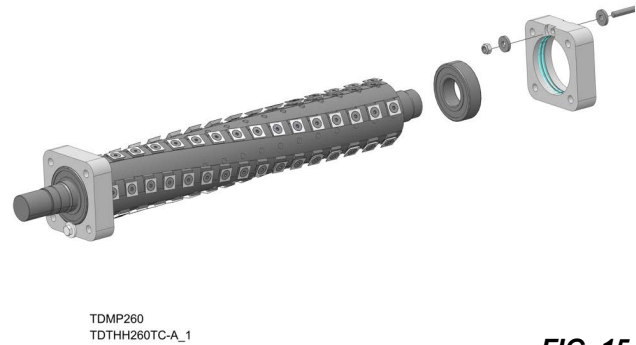

FIG. 15
4. Install nut, bolt, and (2) flat washers on each bearing housing. See FIG.15.